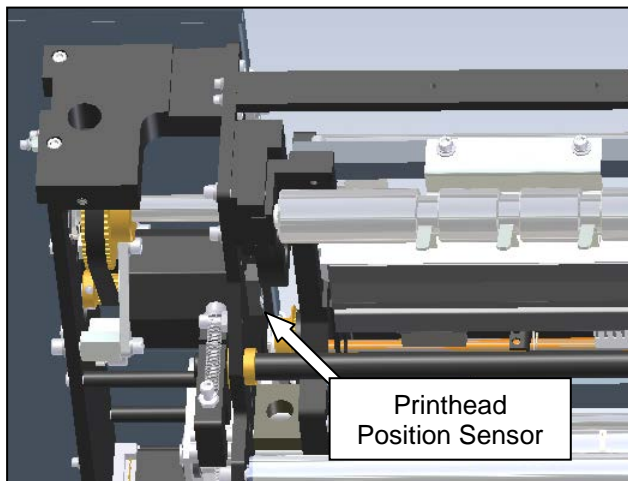

Figure 3-256. Locating the Printhead Position Sensor.
2. Locate the printhead position sensor. Remove the flat head screw that holds the sensor in place. (Figure 3-256).